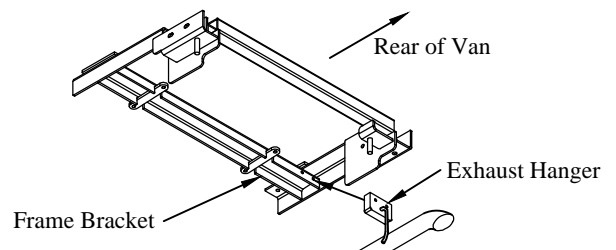

Figure 11: Exhaust hanger location.
10. **Attach** the exhaust tailpipe to the exhaust (Figure 11).
11. **Attach** the rubber exhaust hanger to the liftgate frame bracket using the supplied 3/8 x 2-1/2" bolts, lock washers, and nuts (Figure 11).